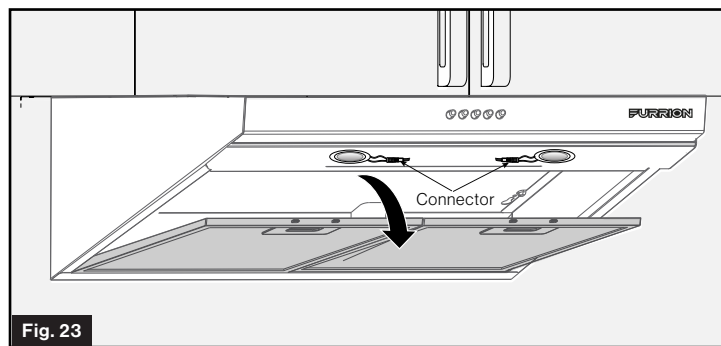

Fig. 23
3. Gently push the LED lamps outward from the inside of the range hood to release the lights from the housing. (Fig. 23)